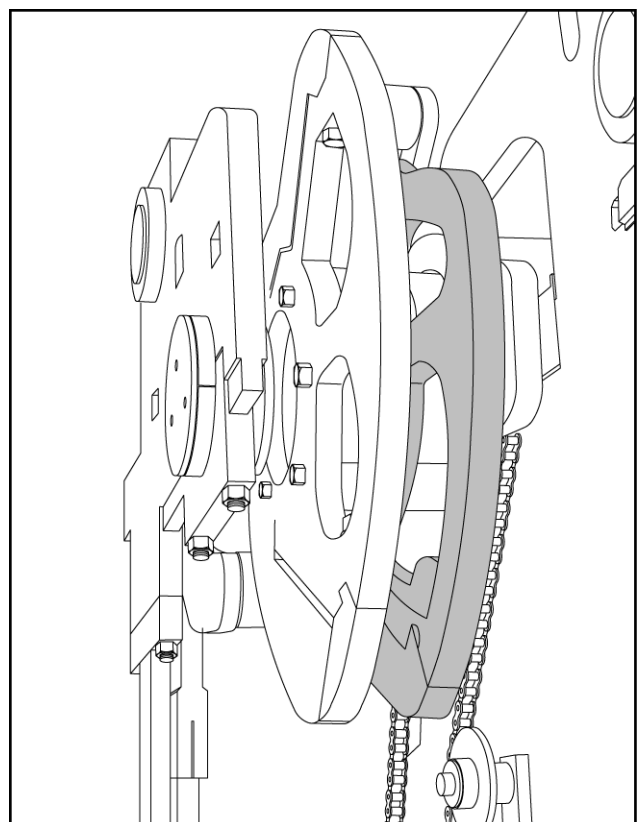

Figure 7.4 STRIPPER HEAD RAISING CAM
3. Run the machine to “second stop” position which is controlled by the rotary sensor. The roller should be centered with the “second stop” marks on the pallet receiver cam. “Second stop” is the point where the stripper head shaft roller just falls off the high lobe of the stripper head raising cam. The stripper head raising cam is the second cam from the outside on the right side of the machine (see figure 7.4). The “rotary sensor value” should be indicating 1800 at this point.